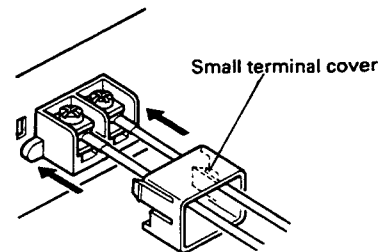

Fig. 11
4. Fit the small terminal cover. (Fig. 11)